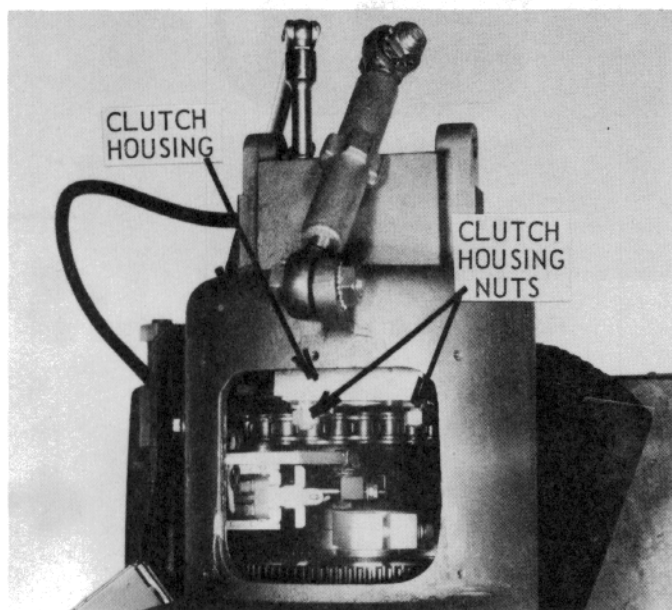

Figure 39 — Mainshaft Clutch Housing Nuts
- 1.2.15 Mainshaft sprag clutches may be examined by removing the two mainshaft clutch housing nuts (see Figure 39) to allow removal of the clutch housing.